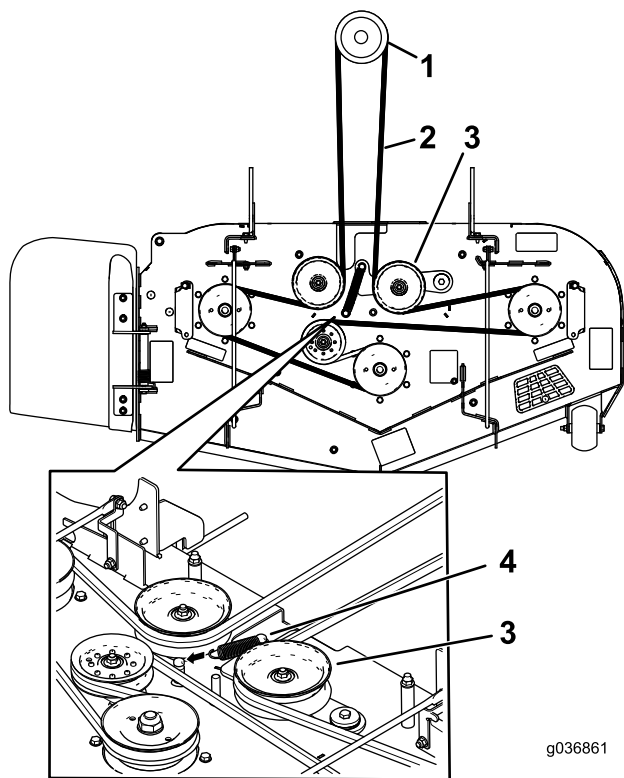

**Figure 62**
7. Remove the belt covers and the bolts attached to them (Figure 62).